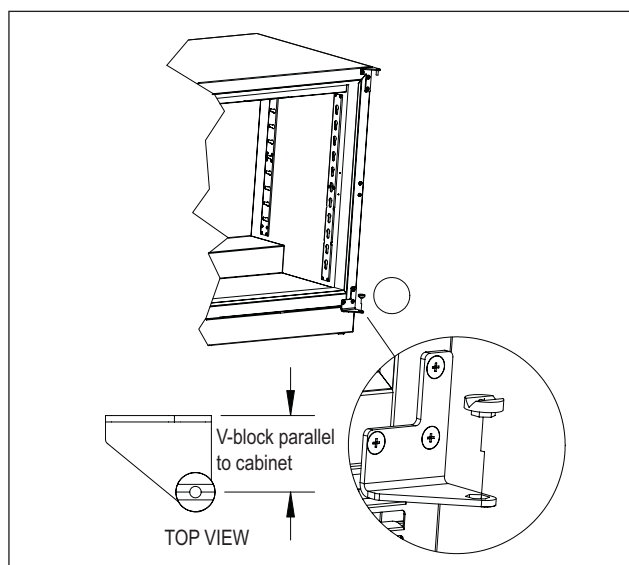

Figure 10. Installing V-Block
11. Place lower V-block into lower cabinet hinge with notch parallel to cabinet (Figure 10).